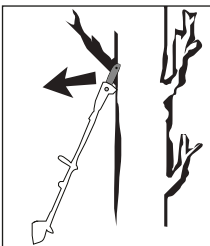

Fig. 2
- Kickbacks can occur if the tip of the guide rail 23 touches an object or if the wood bends and the saw chain 17 gets caught in the cut (see Fig. 2).